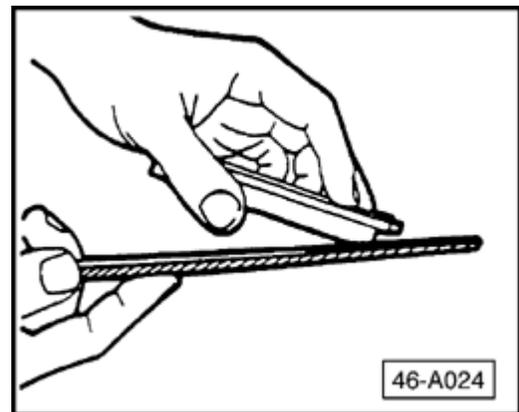

Figure 4. Chamfering brake pad edge.
6. Slightly chamfer edges of brake pads with a file (Figure 4).